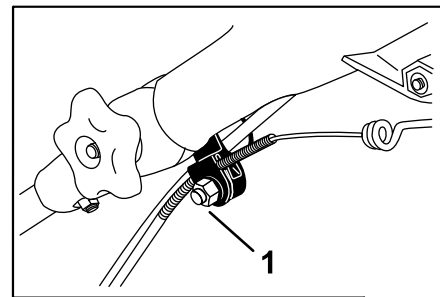

Figure 22
1. Loosen the nut on the cable mount (Figure 22).